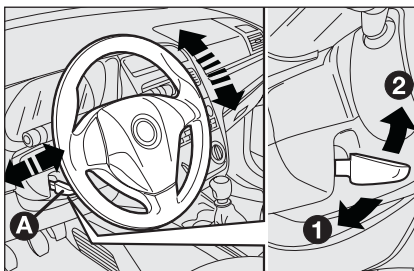

fig. 31
- release the lever **A**-fig. 31 pushing it forwards (position 2);